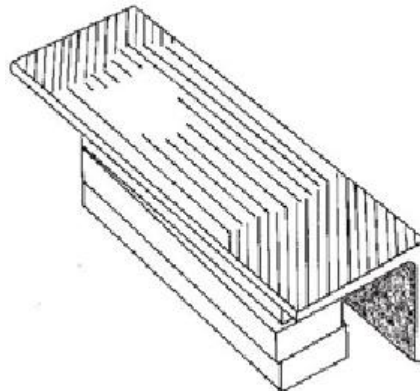

Figure 3: FINAL CLEAN
3. Locally clean the gage sensor area with fine flapper or sandpaper. Metal should have almost a "polished" look to it. (Figure 3)